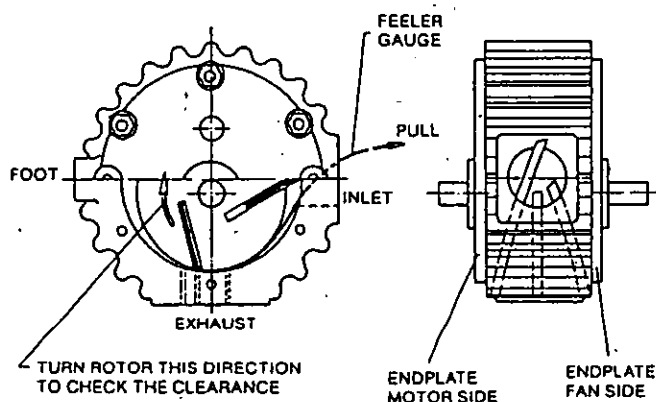

FIG. 11
One should check radial clearance in three (3) locations along rotor. See Figure 11 for insertion of feeler gauge blade. Clearance, depending on model, should be: